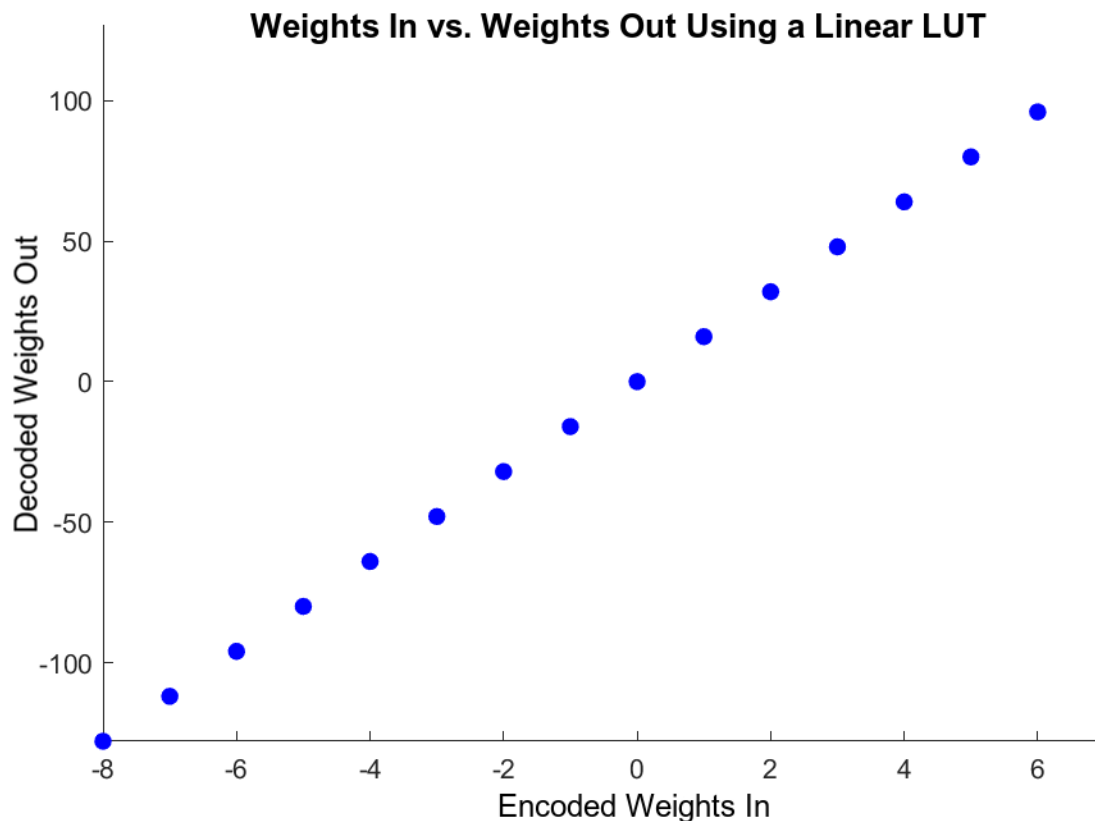

Figure 10. Linear Lookup Table: Weights In vs. Weights Out
- a. For example, with the linear LUT: 0x1F => 0x20, 0xF1 => 0xF0 (see the "Linear Lookup Table: Weights In vs. Weights Out" figure (Figure 10)).